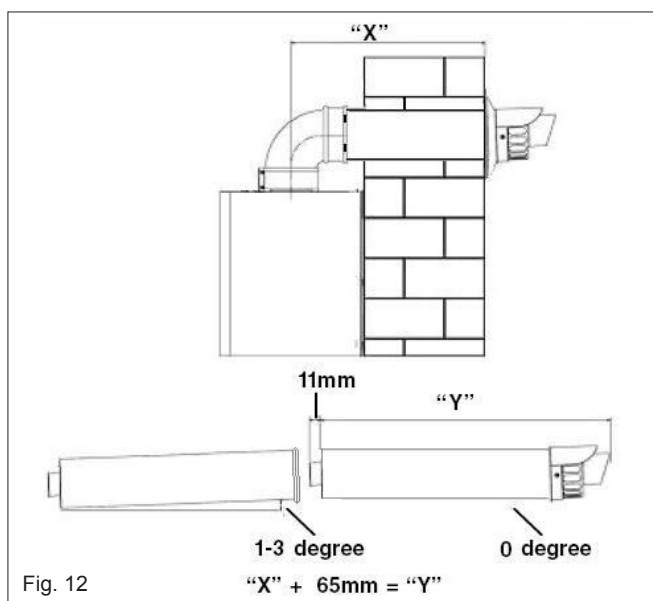

Fig. 12
Using the template provided (A), mark and drill a 125mm hole for the passage of the flue pipe. The hole should be drilled to ensure any condense fluid that forms, is allowed to drain back to the appliance (see fig. 12). The fixing holes for the wall-mounting bracket should now be drilled and plugged, an appropriate type and quantity of fixing should be used to ensure that the bracket is mounted securely. Once the bracket has been secured to the wall, mount the appliance onto the bracket.
Carefully measure the distance from the centre of the appliance flue outlet to the edge of the finished outside wall (dimension X). Add 65mm to dimension X to give you dimension Y (see fig 12). Measure dimension Y from the terminal end of the concentric flue pipe and cut off the excess ensuring any burrs are removed. Pass the concentric flue pipe through the previously drilled hole. Fit the flue bend to the boiler flue outlet and insert the concentric flue pipe into the flue bend ensuring the correct seal is made. Using the clamp, gasket, and screws supplied, secure the flue bend to the appliance flue spigot.
Using the dimensions given in fig. 12 as a reference, mark and cut a 125mm hole in the ceiling and/or roof.